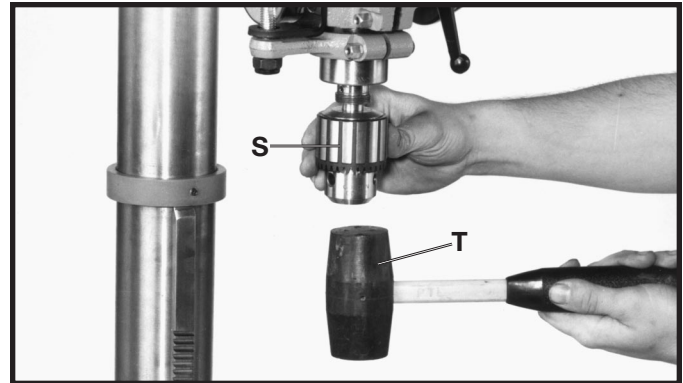

Fig. 16
13. Holding chuck on taper of spindle, tap with a soft tip hammer (T) or a block of wood and hammer to set chuck, as shown in Fig. 16.